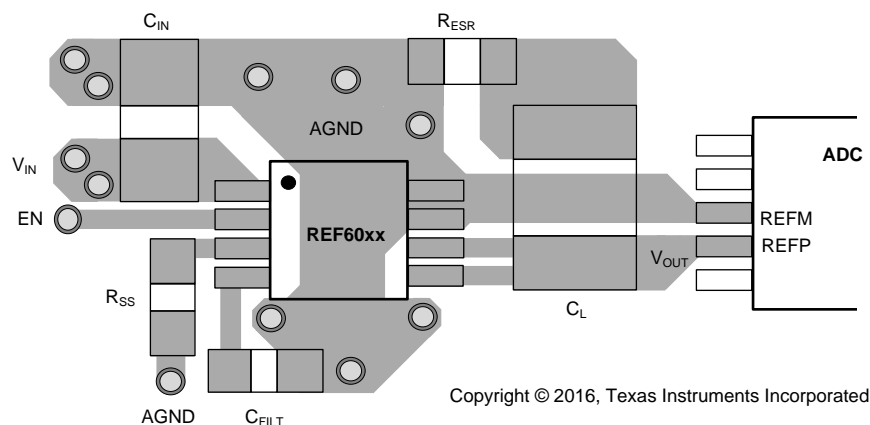

Figure 62. Layout Example
Figure 62 illustrates an example of a PCB layout for a data-acquisition system using the REF60xx. Some key considerations are:
- Run two separate traces between VOUT_F, VOUT_S and the output capacitor, as shown in Figure 62.
- Short the GND_F and GND_S pins with a solid plane, and extend this plane to connect to the output capacitor C_L , as shown in Figure 62.